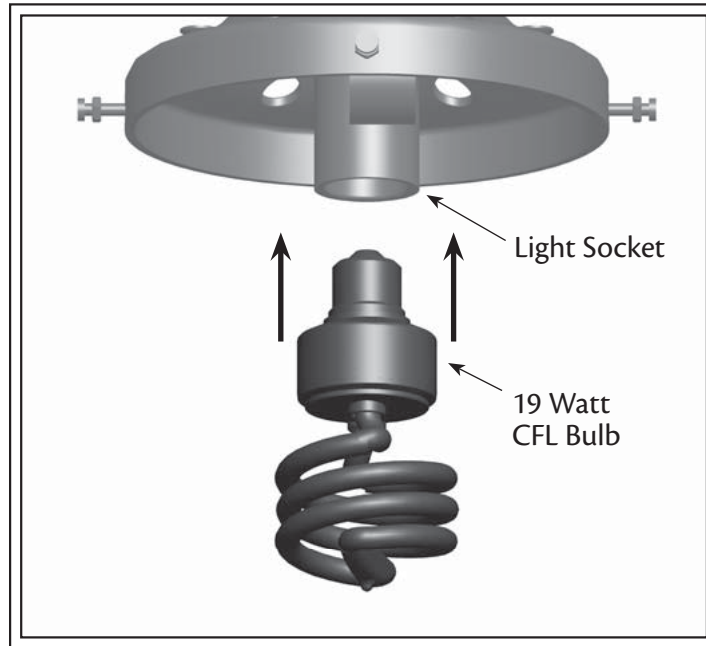

Fig. 16
2. Insert and screw the CFL bulb into the light socket turning the CFL bulb clockwise (see. Fig. 16).